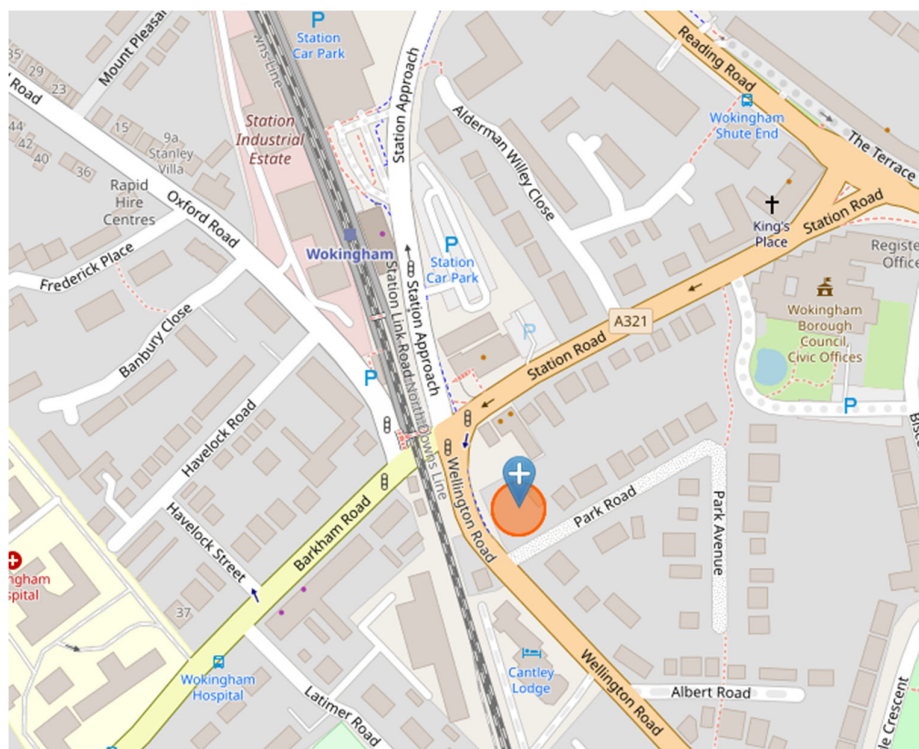

Figure 1.1 – Location Plan
1.4.1 The site location is shown below in **Figure 1.1**.